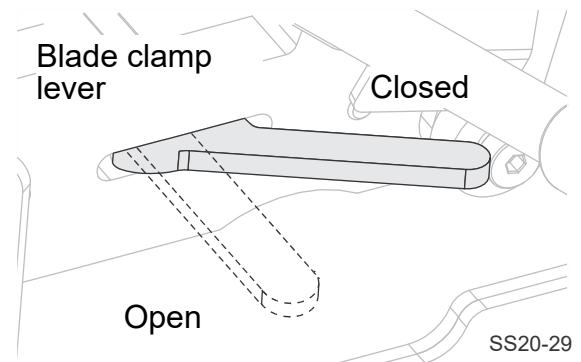
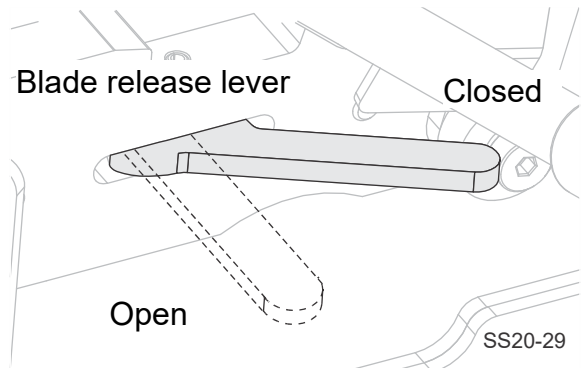

FIG. 3-2
FIG. 3-7
2. Mount the blade in the Sharp-'n-Set. Open the blade clamp (See fig. 3-2.) and place blade between the clamping plates with the blade's bottom edge on the blade support posts. Adjust the height of the rear guide so
1. **Open the blade clamp** \(See fig. 3-2.\) and **adjust the blade in the left-right orientation.** Lower the grinding wheel to align the blade in the gullet of the blade tooth \(See fig. 3-6.\) Close the blade release lever to hold the blade accurately in place. \(See fig. 3-7.\)